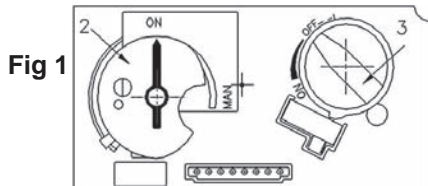

Fig 1
2. TO CLEAR ANY GAS, turn main valve off by pressing the  button on remote handset (1). Wait five (5) minutes to clear out any gas, then smell for gas, including near the floor. If you smell gas, STOP! follow "B" in the safety information above on this label. If you don't smell gas, go to the next step.
3. AUTOMATIC IGNITION: MAN-knob (2) in ON position. Ensure Flame Adjustment knob (3) is set to lowest setting (Fig. 1). Locate the pilot (Fig. 3.) inside the firebox.